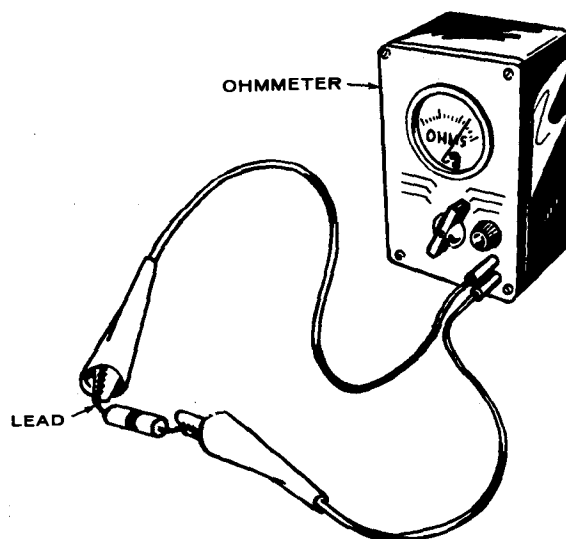

FIGURE 11. TESTING DIODES
2. Connect one lead to each end of diode and observe resistance reading, Figure 11.